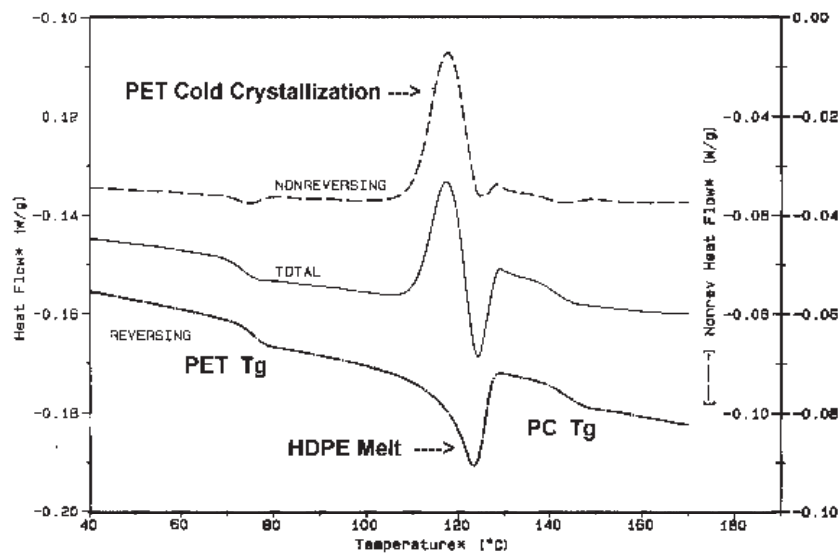

Figure C.13
Figure C.13, on the next page, shows another example where MDSC improves separation and interpretation. The sample is a blend of polycarbonate (PC), polyethylene terephthalate (PET), and high-density polyethylene (HDPE). The Total Heat Flow signal shows a glass transition (T_g) near 80°C, but the large transition at 120°C is somewhat indecipherable. MDSC demonstrates that this complex thermogram actually contains two glass transitions, the PET T_g at approximately 75° and the PC T_g at approximately 145°C, as well as the HDPE melt at